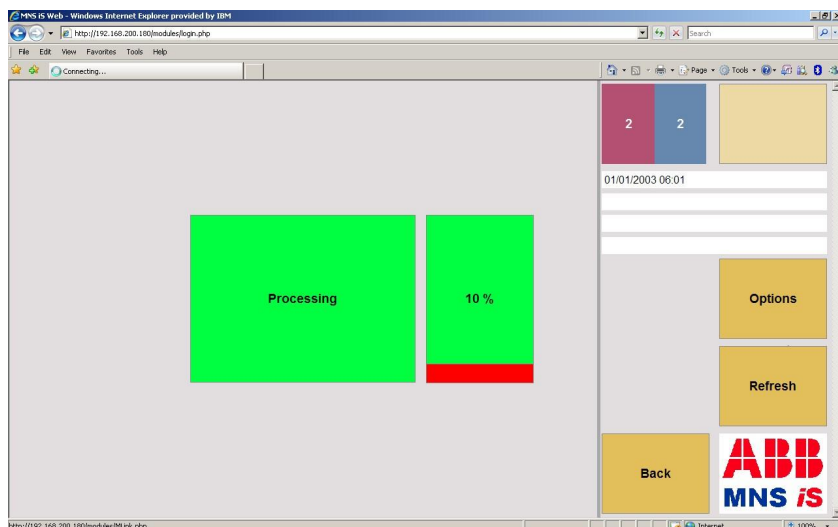
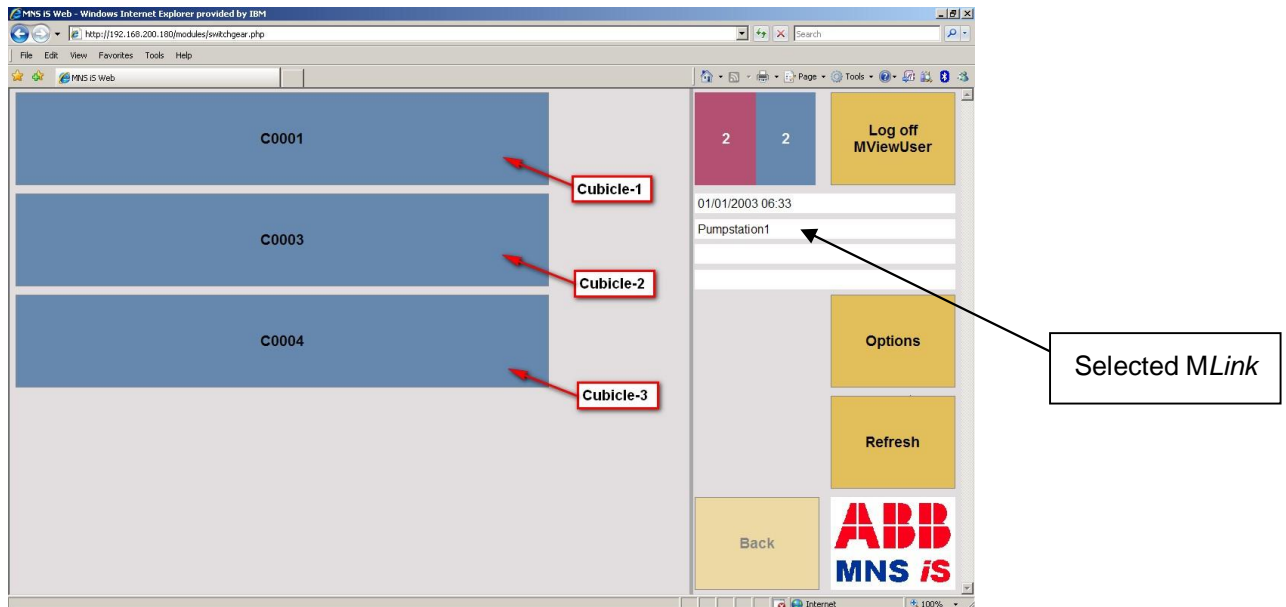

Figure 2 Progress indication
Figure 4 - Switchgear view
- “Log off <user name>”: This button shows the user who is logged in. By clicking the button the user is logged off and gets back to the *MLink* list view, see **Figure 2**.
- “Back”: Go back to the last visited view. This button is inactive in **Figure 2** (start view) and **Figure 4 - Switchgear view** (go back by “Log off <user name>”)